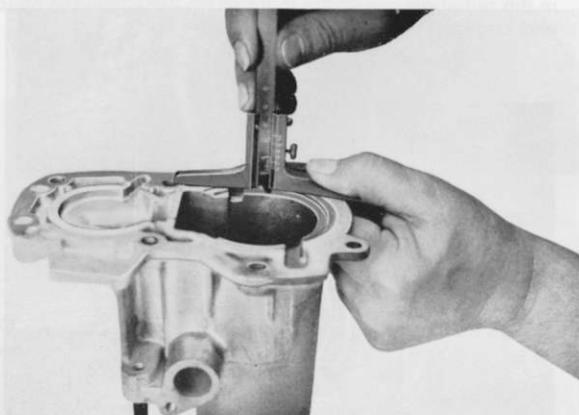

Fig. 57
- Determine the depth of the mating bore in the speedo cover (Fig. 57). The difference of the 2 measurements less 0 to 0,1 mm play gives the thickness of the spacer (804) which must be placed in the bore of the speedo cover. The spacers are available in thicknesses of 0,4; 0,5; 0,6; 0,7; 0,8; 0,9 and 1,0 mm.
- Press the needle bearing (810) and shaft seal (811) with hot bearing grease between sealing lip and dust lip up to the stop on the output bore of the speedo cover. With sealing lip to the inside of the gearbox.
- Stick the spacer (804) for the mainshaft bearing with grease in the appropriate bore of the speedo cover. On layshafts with ball bearings (installed up to gearbox No. 1152) a spacer (302) 1,5 mm thick must be placed into the smaller bore of the speedo cover. The shim is equivalent to the difference in width between the ball bearing and the equivalent roller bearing. The installation of both bearing versions is carried out on the input side.